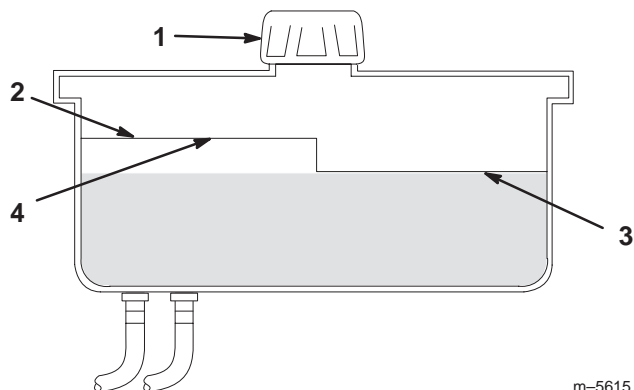

Figure 47
2. Clean area around filler neck of hydraulic tank (Fig. 47).
3. Remove cap from filler neck. Look inside to check if there is fluid in the reservoir. (Fig. 47).
Note: The fluid level should be to the top of the **hot** level of the baffle, when the fluid is warm (Fig. 47).